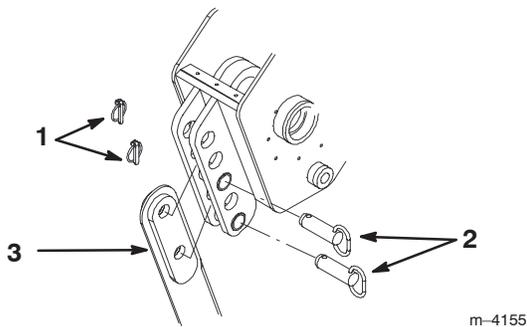

Figure 2
3. Remove the two click pins from the clevis pins in the blade bracket, then remove the clevis pins (Fig. 2).
4. Slide the blade into the blade bracket and secure it at the desired depth (a change in mounting holes will change the depth by 3 in. (7.6 cm)), using the clevis pins and click pins removed previously (Fig. 2).
2. Remove the lower click pin and clevis pin securing the blade to the plow (to completely remove the blade, remove both the upper and lower click and clevis pins) (Fig. 2).